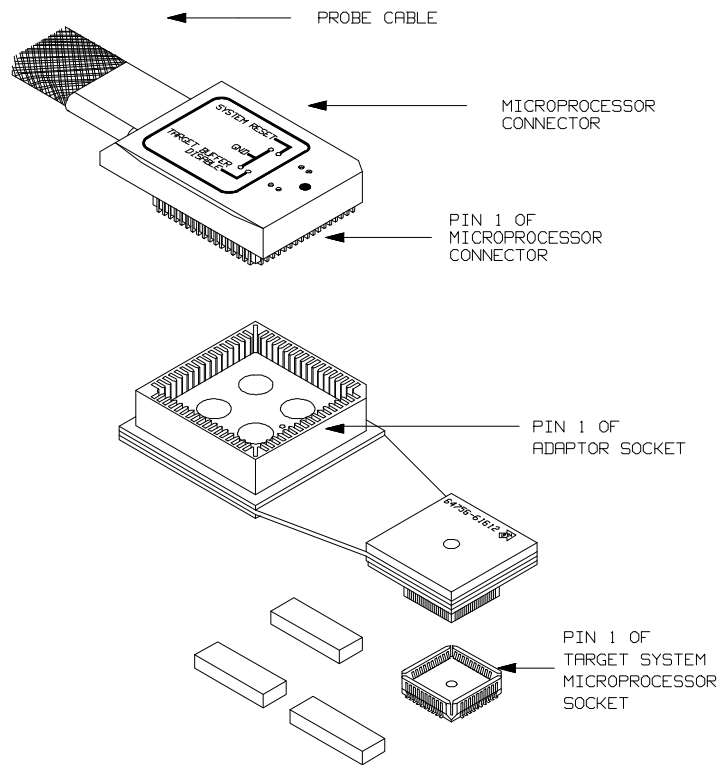

Figure 3-4. Installing into a 70136 QFP type socket
- Place the microprocessor connector with the adapter (see figure 3-4), attached to the end of the probe cable, into the target system microprocessor socket.